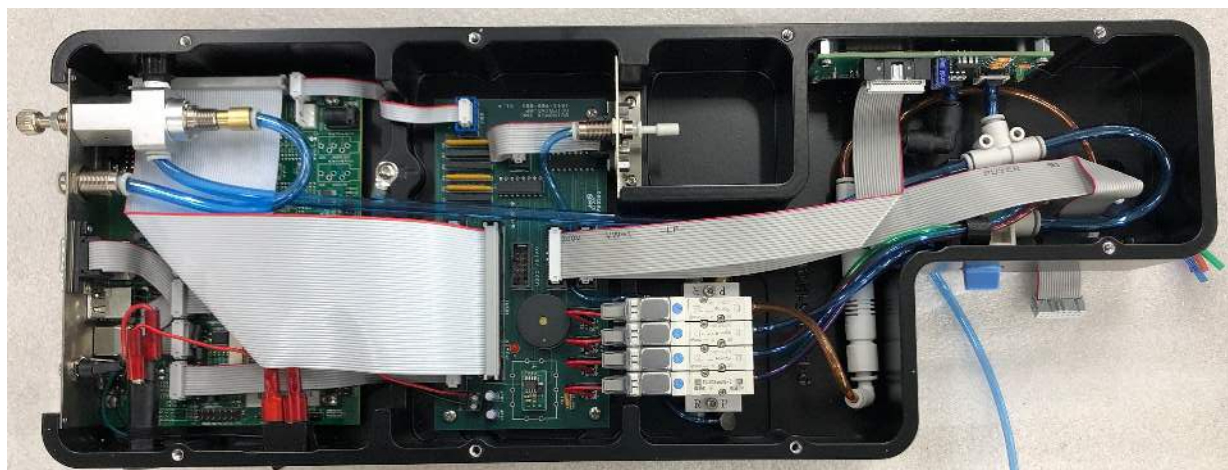

Figure 1.
5. When complete the MP2 base should look like Figure 1 below.